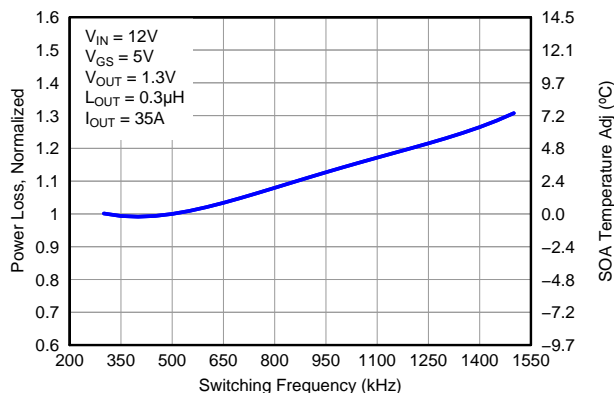

Figure 6. Normalized Power Loss vs. Switching Frequency
- Normalized Power Loss for switching frequency ≈ 1.11 (Figure 6)
- SOA adjustment for switching frequency $\approx 2.8^\circ\text{C}$ (Figure 6)